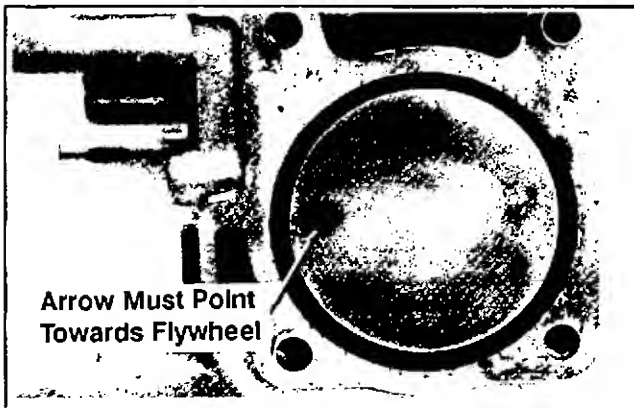

Figure 11-5. Piston Installation Identifier.
3. Orient the “FLY” mark on piston towards the fly-wheel side of crankcase. See Figure 11-5. Gently push the piston/connecting rod into bore. **Do not pound on the piston.**